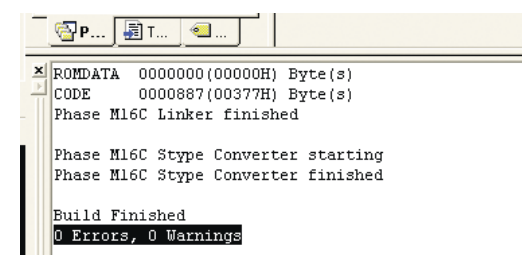

Figure 4. HEW with the skptest26 project compiled
- g) Click the “Build” icon, , to compile, assemble and link the project. HEW will look similar to Figure 4.